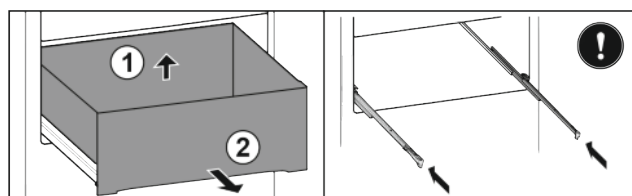

Fig. 29
- Lift up the drawer at the back Fig. 29 (1).
- Take off to the front Fig. 29 (2).